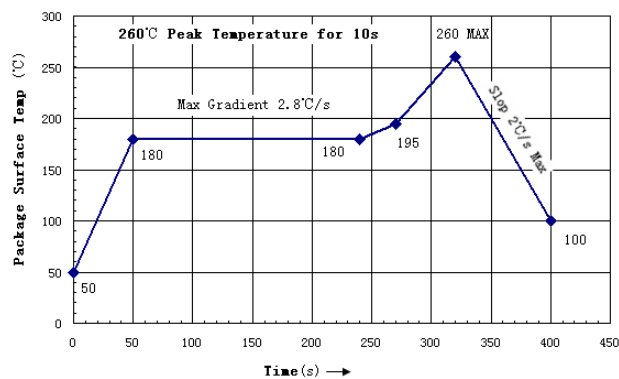

FIGURE 4.
- ◆ Figure 4 is the reflow profile for Pb free process